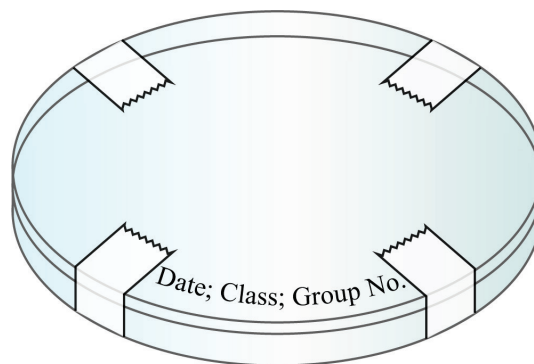

Fig. 7
12. Replace the lid. Stick short strips of adhesive tape at opposite edges of the agar plate to hold the lid and base together as shown in Fig.7.